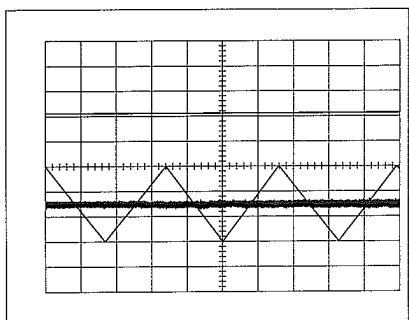

Figure 3-12 R400 adjusted to place “noisy” line in the center of the triangle signal
10. Adjust A32**R400** to center the flat trace in the clean triangle trace as shown in figure 3-12.